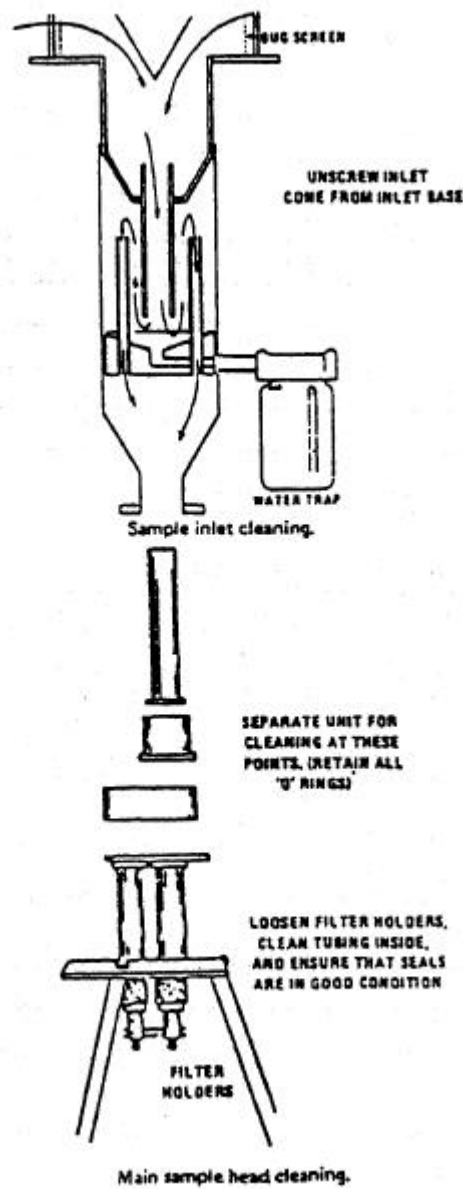

Figure M.1.2.2
1. Disassemble and clean the sample inlet, virtual impactor, and filter holders. Be sure to include the nozzle, using n-Propyl alcohol and lint-free paper towels and cotton swabs (see Figure M.1.2.2). Check and replace the O-rings as required.